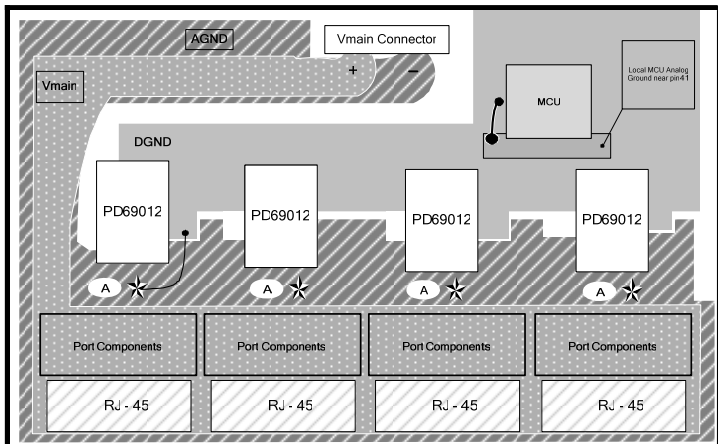
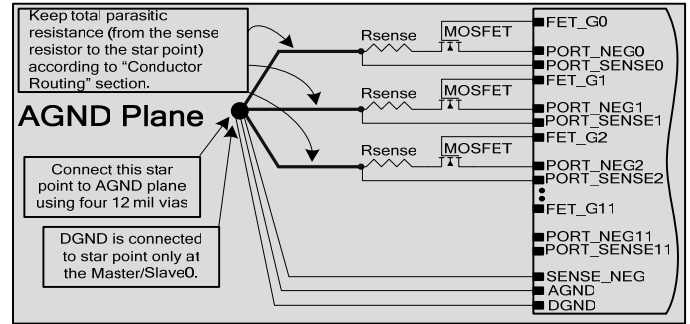
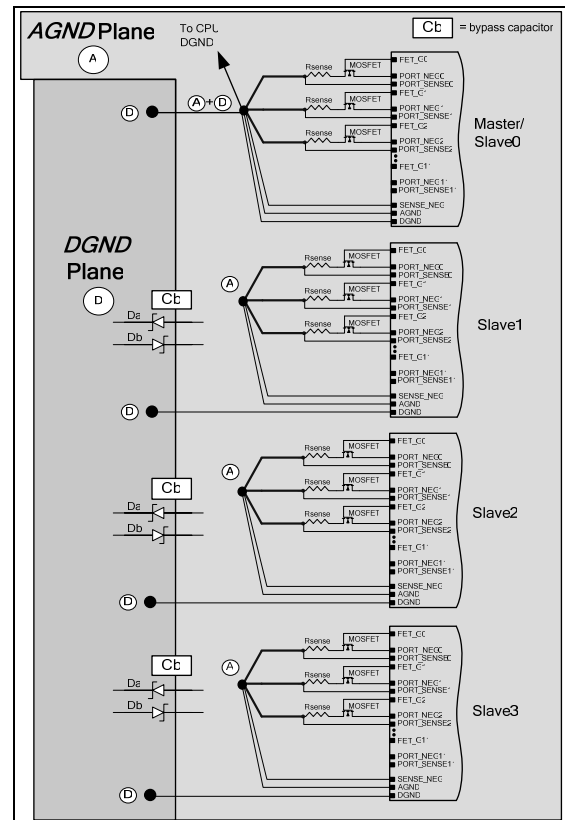
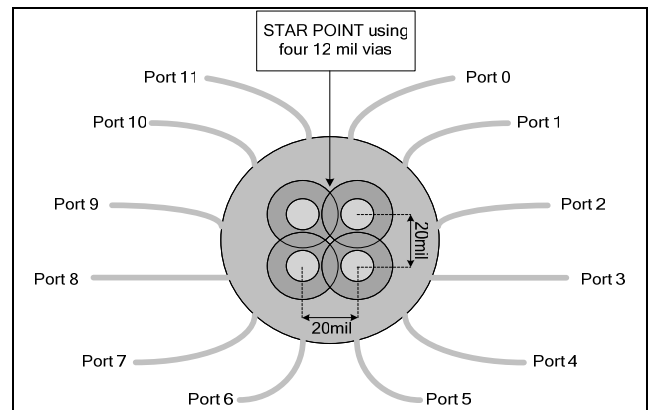

Figure 10: Ground and Power Planes
Figure 11: Star Point and Sense Resistors Design Criteria
Figure 12: Overall Grounding Scheme
Figure 13: Star Point Layout
Ground planes are crucial for proper operation and should be designed in accordance with the following guidelines, illustrated in Figure 10:
- Only a single connection point is to be used between the digital and analog grounds, in order to prevent ground loop currents. This connection is to be accomplished at the "star point" of PD69012 Slave0 as shown in Figure 10 and Figure 12
- It is recommended that the grounding layout is implemented as described in Figure 10. A number of separate grounding areas are essential in the design, in order to minimize noise effects from the heavy currents flowing to the ports. Several separate ground areas are established to concentrate sensitive circuits, apart from the main grounding surfaces
- Rsense resistors for each PoE Manager are all connected to local "star point" on the analog ground (AGND). To achieve this, use four tied power via's of 12 mil diameter each (see Figure 11, Figure 12 and Figure 13)
- In addition, the Rsense resistors' "star point" connection for the PD69012 utilized as Slave0, is to be the focal interconnection point for the digital and analog grounds (see Figure 12)
- Leave spacing for ceramic 1nF bypass capacitors (C_b) (Figure 12) between the analog and digital layers near each PoE Manager. The capacitors form low impedance paths for digital driving signals
- Leave appropriate spacing (provision for) for two parallel and inversed Schottky diodes (D_a , D_b) (Figure 12) between the analog and digital layers near each PoE Manager. The diodes form low impedance paths for highly energized signals running between analog and digital layers and enhance circuit immunity
- Each PD69012's port incorporates a current sense resistor. For proper power management and control, these lines are to be laid out in such a way that measured current is not impeded by adjacent ports current flow or by excessive path resistance. To achieve this, a single common point is to be used to aggregate the current flow of all 12 ports to the analog ground (AGND) layer. This point is referred to, as the local PoE Manager "star point" (see Figure 11, Figure 12 and Figure 13). It is critical to design the total layout path (traces resistance from PORT_SENSE pin to the AGND star point), for an accurate resistance value, since wrong resistance value results in current measurement error and un-reliable power management. Parasitic resistance added by the layout traces, must be planned as follow: